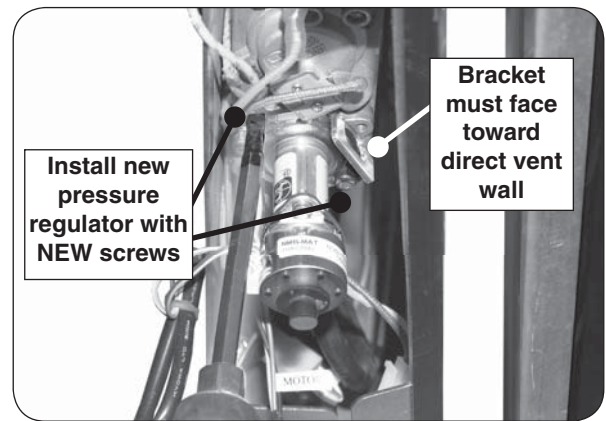

Fig. 3-1 Install new pressure regulator
4. Use the provided screws and a Torx T20 bit or slotted screwdriver to install the new pressure regulator onto the valve body (see Fig. 3-1).